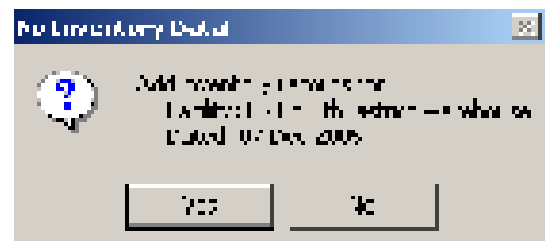

Figure 8.2 Confirmation message.
3. Click Add New button. A confirmation message (Figure 8.2) is displayed, asking you to confirm the new record.